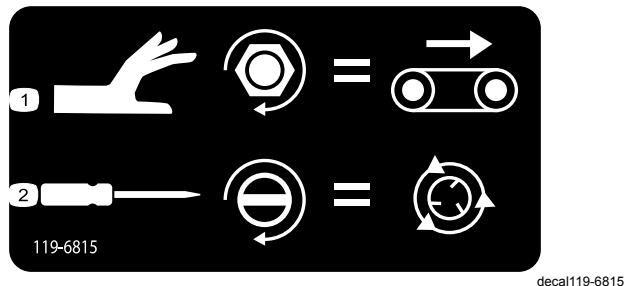

Figure 44
- To adjust the floor speed (Figure 44), turn the knob clockwise. Use the maximum-floor speed of the color-coded operation system when you have no hydraulic flow. This setting is helpful when the hopper is full of sand.
- To adjust the spinner speed (Figure 44), use a flat-head screwdriver to increase spinner speed by turning the screw clockwise or decrease spinner speed by turning the screw counterclockwise.